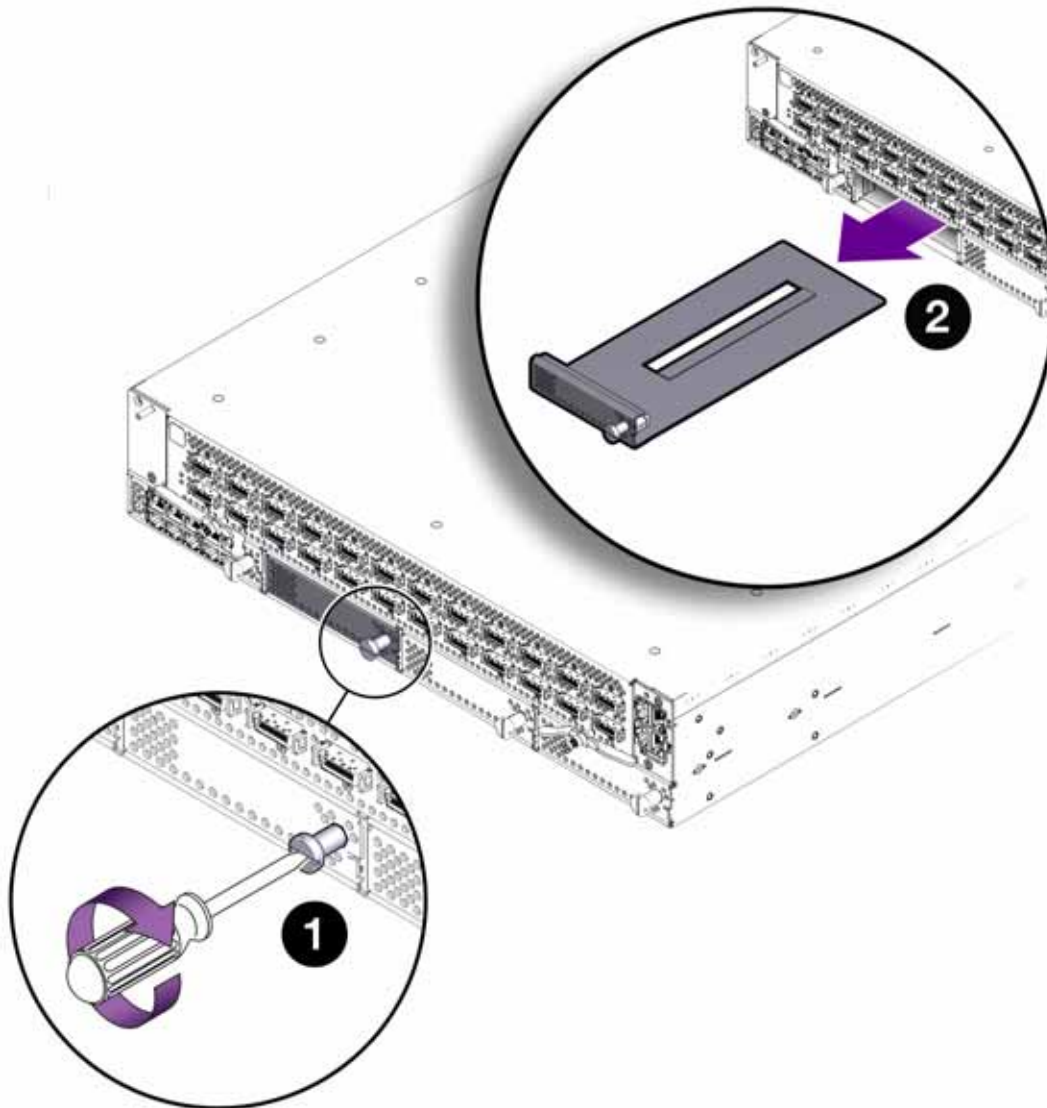

Figure 16 Removing an I/O Module Blank
- Step 2** Using a slotted screwdriver, unlock the I/O module blank by turning it 90 degrees clockwise (1) as shown in Figure 16 on page 36.